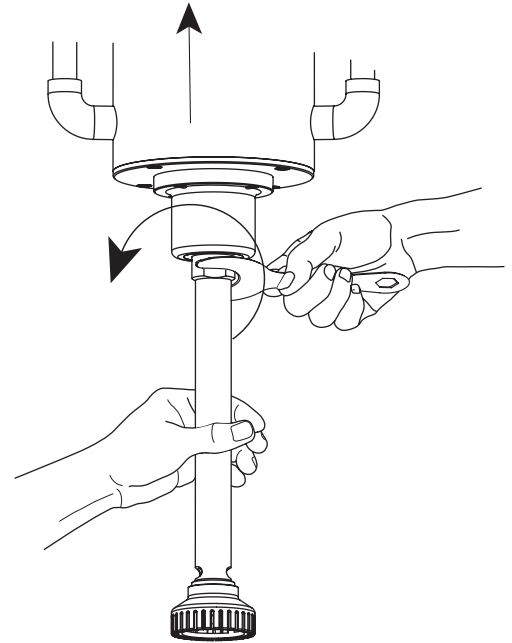

figure 13
- Then unscrew and remove the mixing impeller. (Fig.13)